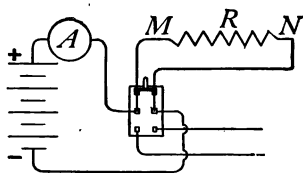

FIG. 268.
in charging can be obtained upon *discharging*. Therefore the *efficiency* of a good storage cell is about 75 per cent. Fig. 268 represents a storage battery connected to charg-
290. Energy and Power of a Storage Cell.—In a storage cell, the electrical energy of the charging current is transformed into *chemical* energy by the action of electrolysis. It is this chemical energy that is transformed into the energy of the electric current when the cell is discharged. The *capacity* of storage cells is rated in “ampere hours,” a 40 ampere hour cell being capable of producing a current of 1 ampere for 40 hours, or 5 amperes for 8 hours, etc. The production and extensive use of electric currents have made necessary accurate methods for measuring the *energy* and *power* of these currents. To illustrate how this is accomplished, let us imagine an electric circuit as represented in Fig. 268. Here four storage cells in series have an E.M.F. of 8 volts and in accordance with Ohm’s law produce a current of 2 amperes through a resistance in the circuit of 4 ohms. Now the work done or energy expended by the current in passing through the resistance between the points *M* and *N* depends upon three factors (1) the E.M.F. or *potential difference*; (2) the *current intensity* and (3) the *time*. The energy is measured by their product. That is, *electrical energy* = *potential difference* \times *current intensity* \times *time*. This represents the electrical energy in *joules*, or
In the circuit represented in Fig. 268 the energy expended between the points *M* and *N* in 1 minute (60 seconds) is $8 \times 2 \times 60 = 960$ joules.